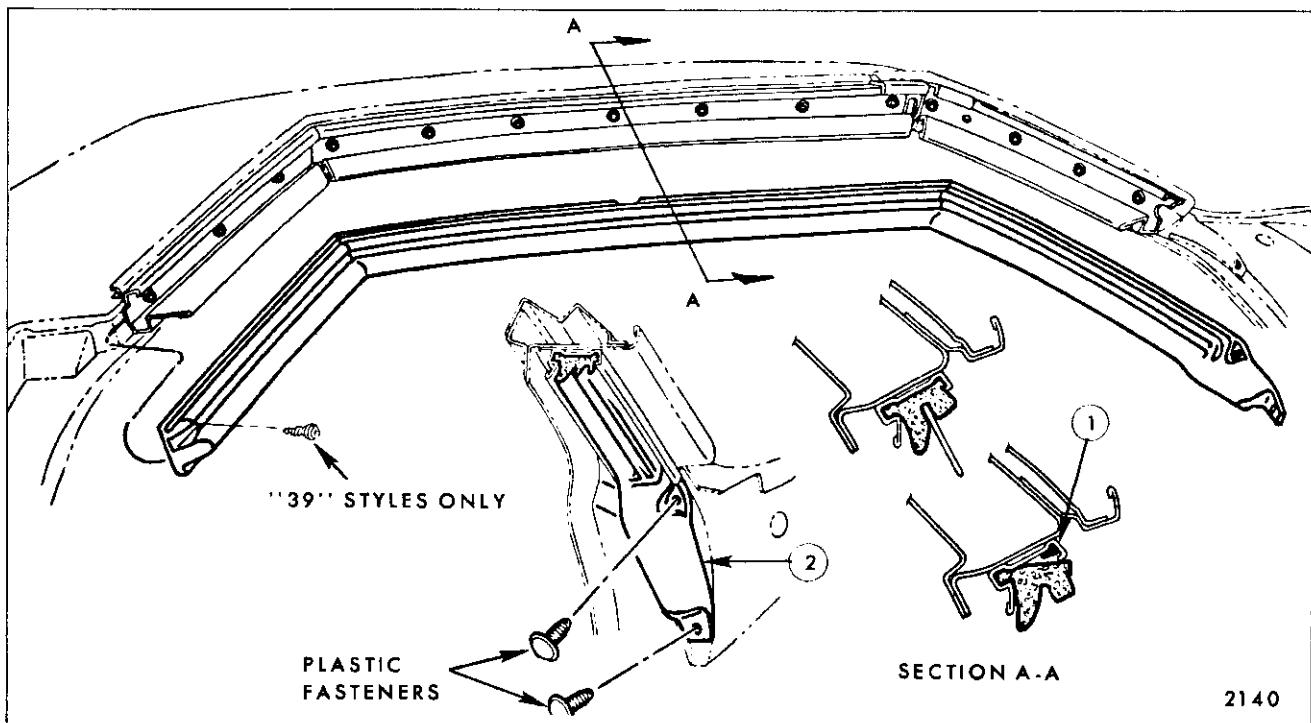

Fig. 6-8—Side Roof Rail Weatherstrip — All Hardtop Styles Except "B-C47 & E" Body Styles
1. Remove plastic fasteners at front and screw at rear of side roof rail weatherstrip (Figs. 6-8, 6-9, 6-10 and 6-11).
5. Apply a bead of black weatherstrip adhesive to outboard flange of weatherstrip retainer ("1", Figs. 6-8 and 6-9). Extend adhesive down front body hinge pillar to seal lower front end of weatherstrip that is retained with plastic fasteners.
- NOTE:** For Steps 5 & 6, Figures 6-8 and 6-9 are to be considered as typical for all hardtop styles.
6. Position front end of weatherstrip to body and install plastic fasteners. Then, using a flat-bladed tool, begin engaging weatherstrip with retainer as shown in Section "A-A", Figures 6-8 and 6-9. Engage inboard lip of weatherstrip first, then, outboard lip.